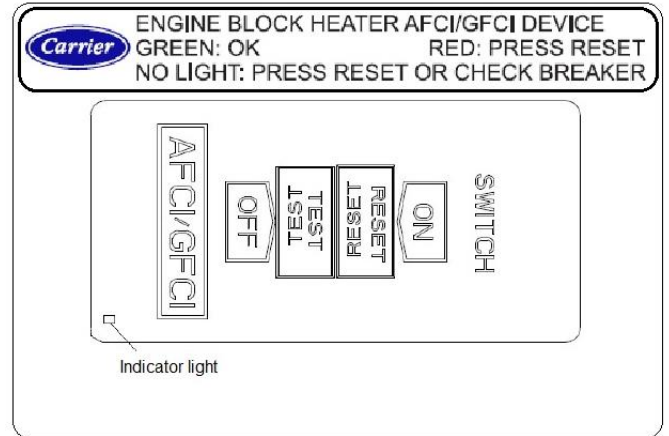

Figure 19. Label placement
10. Apply the supplied label as shown in figure 19